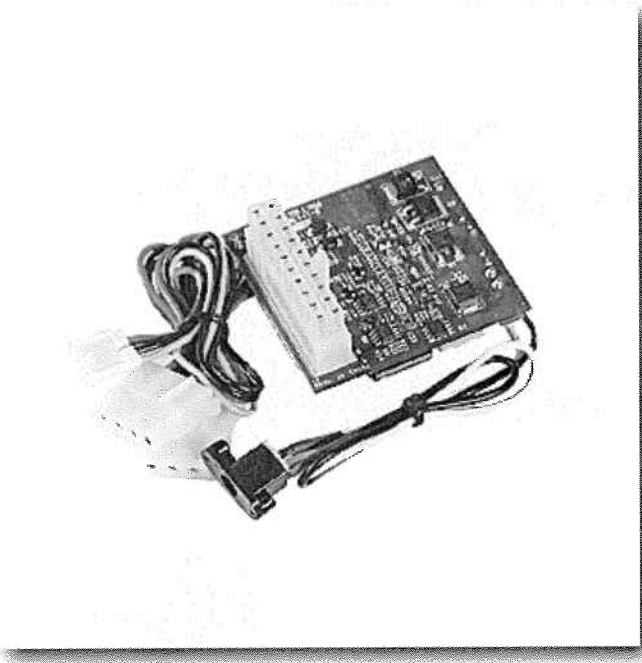

FIGURE 11-5: Mini-Box PW200M power supply.
- The Mini-Box PW200M 200-watt DC-DC power supply, for when the computer is in your car (~\$50, the 200 watts of power may seem like overkill, but is a good idea to install now for future expansion, shown in Figure 11-5).
- The Mini-Box PW200M 200-watt AC power supply (~\$50, the 200 watts of power may seem like overkill, but is a good idea to install now for future expansion), for when the computer is in your car, as shown in Figure 11-5.
The computer you install in your car needs to come up when you start your car and automatically shut down when you turn your car off. To do this properly you will need a DC-DC power supply for your car and a power-stepping unit (PSU) plus low-voltage regulator (ITPS) to provide this functionality. Examples of these products are shown in Figures 11-5 and 11-6. Many Car PC manufacturers and parts resellers offer these types of Car PC power supplies, sometimes built into a single unit. A list of these providers is in Appendix C, "Additional Resources." The solution used in this chapter is from Mini-Box (www.mini-box.com), but there are many solutions available and all of them have their pros and cons. It's a good idea before you install a solution to check with what other people have used, because the solution you install in your car may vary from what's discussed in this chapter. A list of online forums is also provided in Appendix C.